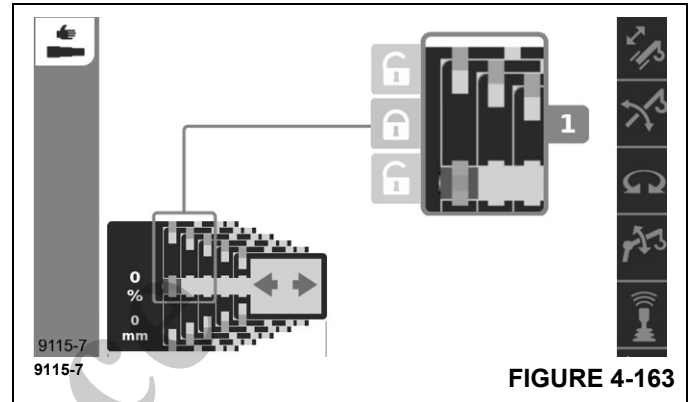

FIGURE 4-163
- The Manual Mode shows an expanded view of the telescoping cylinder pinning mechanism with the same unlock icons and a lock icon, as seen in (Figure 4-163) (instead of the requested final boom configuration values for the Semi-auto Mode). When one of the unlock or lock icons becomes available to be selected (changes from the basic gray color to the focus color), then the operator can request the unlock command or the lock command. The top unlock icon is for the boom section unlocking, and at the proper time the lock icon would be used to again lock the boom section (the lock icon will become available as a command when the control system allows it). The bottom unlock icon is for the telescoping cylinder unlocking, and again at the proper time the lock icon would be used to again lock the